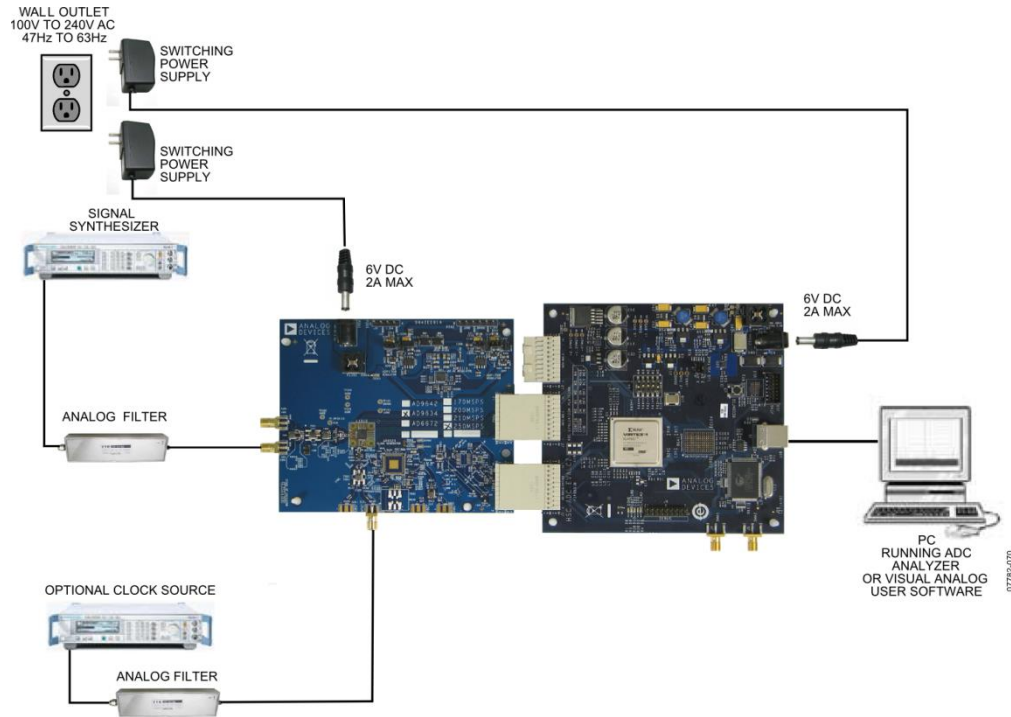

Figure 1: AD6672 Evaluation Board with HSC-ADC_EVALCZ Data Capture Board
1. Connect the AD6672 evaluation board and the HSC-ADC-EVALCZ board together as shown in Figure 1.
9. Next open the SPI Controller software. If prompted for a configuration file, select the configuration file titled AD6672spiR03.cfg. If not, check the title bar of the window to see which configuration is loaded. If necessary, choose "Cfg Open" from the "File" menu and select one of the configuration files named above. Note that the CHIP ID(1) field may be filled whether the correct SPI Controller configuration file is loaded or not.